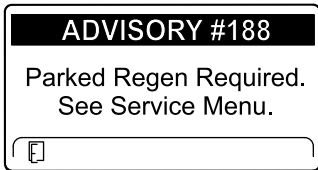

Figure 82
- Parked regeneration required ADVISORY #188 (Figure 82)